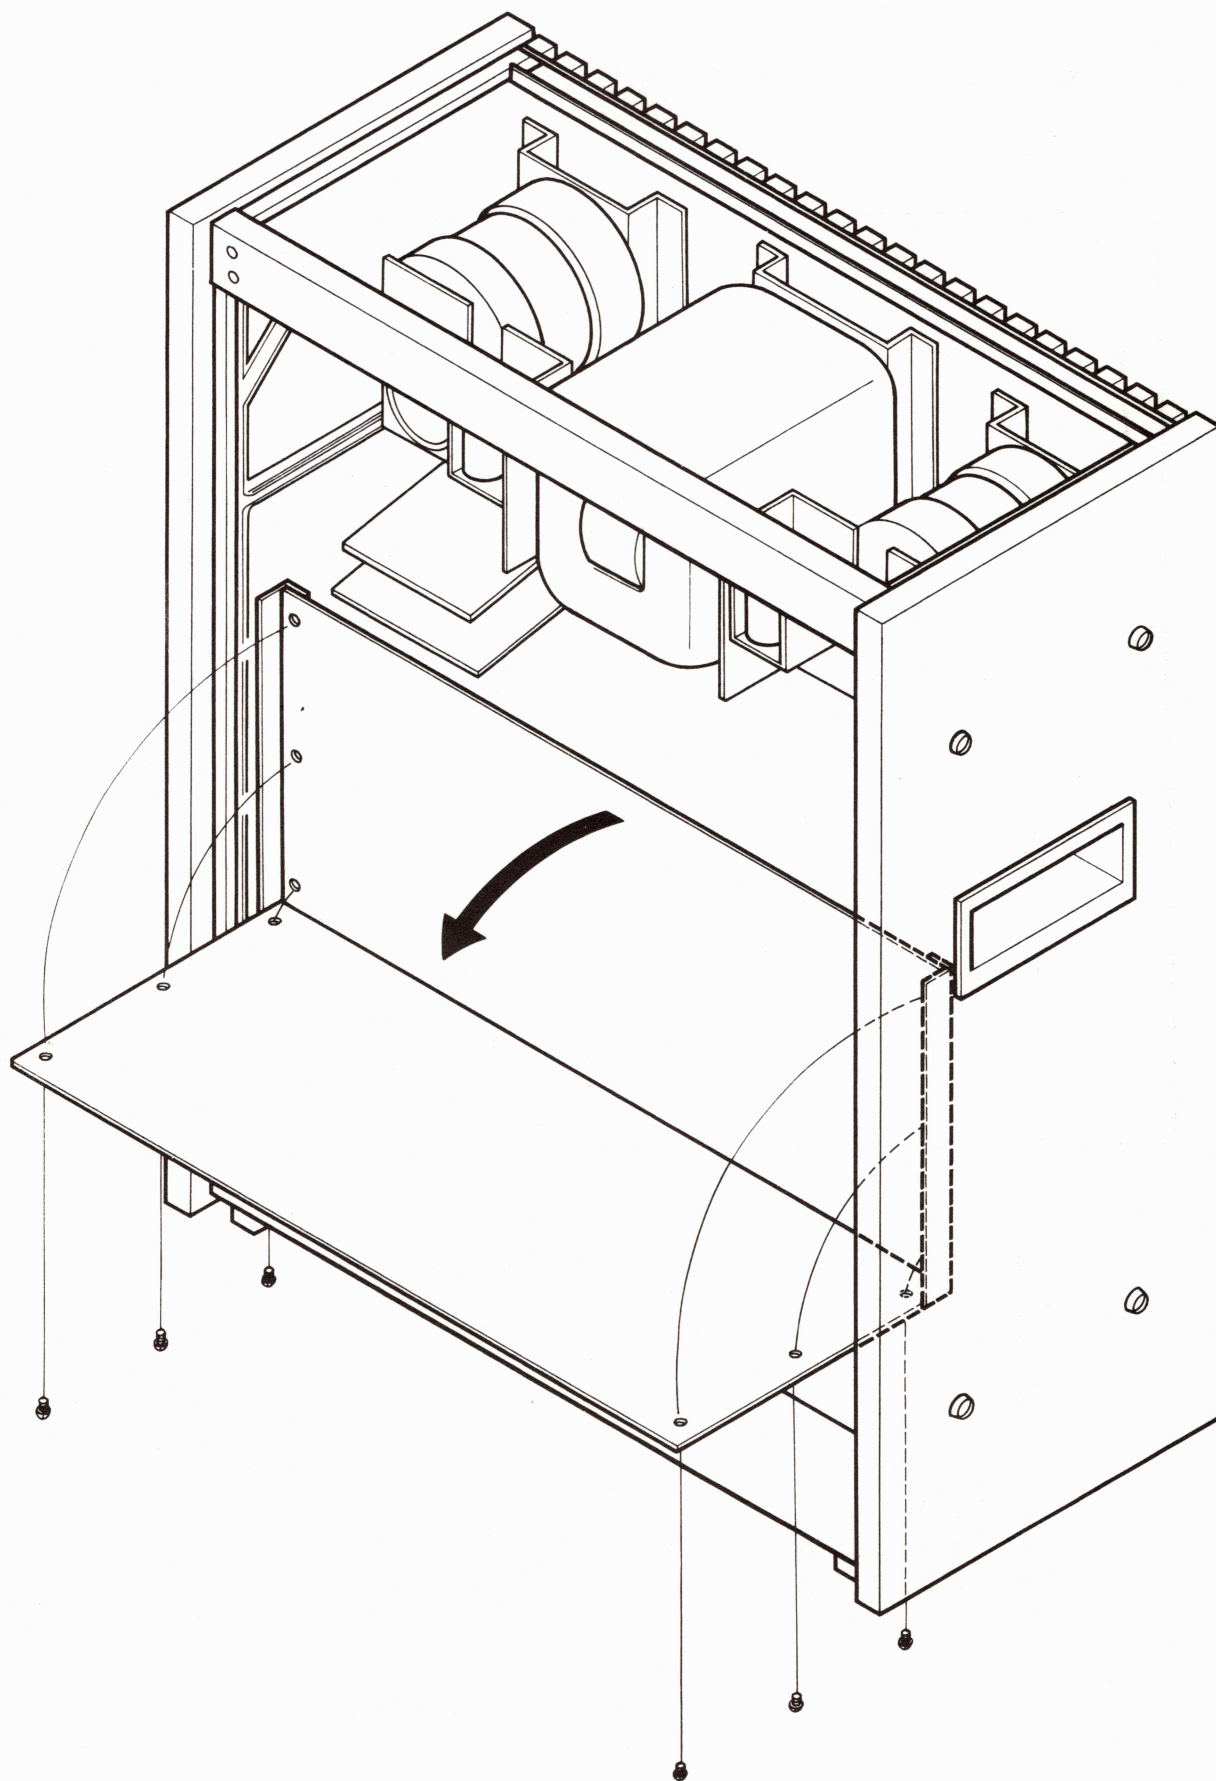

Figure 5-7 Rotating Control P.C.B.
- (5) Remove the rear cover of the recorder by removing 10 screws, then open the Control P.C. Board Ass'y by removing both sides 6 screws. (Refer to Figure 5-7 .)
- (6) Use a vacuum cleaner and a small brush to remove all dust or contamination from the interior of the transport. If necessary lightly moisten brush with isopropyl alcohol to clean parts.
- (7) Install the rear cover and the Control P.C. Board Ass'y.